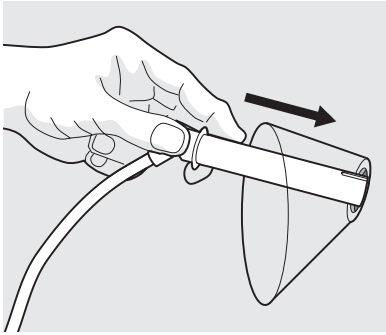

Figure 6
10. Push the water inlet tube through the small hole where the Installation label was (Figure 6). Rotate while inserting the tube until the flat surface of the inlet tube is tight against back of the refrigerator.